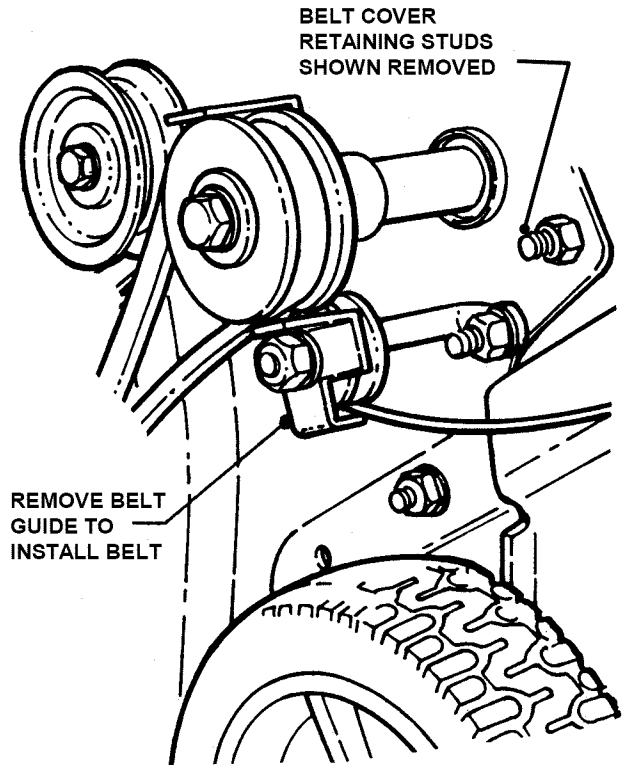

FIGURE 4.4
- Remove belt guide. See Figure 4.4.